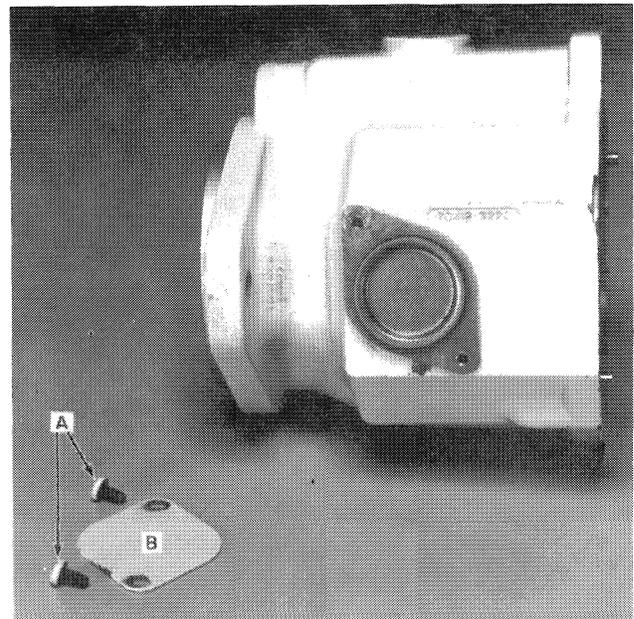

FIGURE 4-15
- a. Remove torx head screws, A, and cover plate, B, Figures 4-15, 4-16, 4-17, and 4-18.